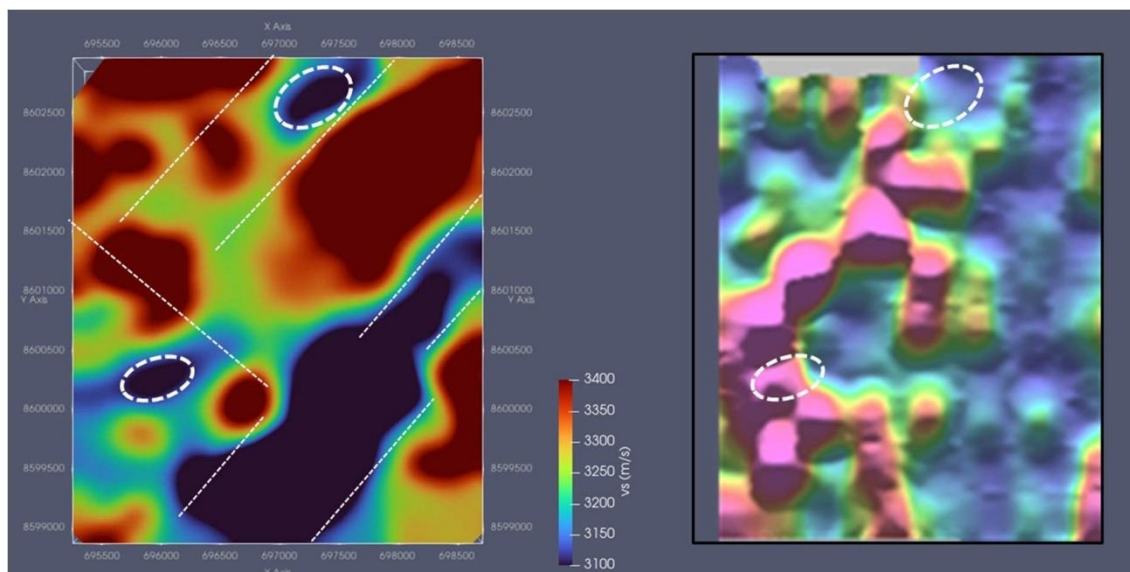

Figure 4: (Left) 450m depth slice through the velocity model, (Right) Li₂O geochemical sampling grid. Geochemical anomaly locations are shown on both.
- **ANT A1-1:** Central west, with dimensions of **400m x 200m** and extending from 200m to 600m below surface. Notably coincidental with geochemically high Li₂O as shown in Figure 4 above.